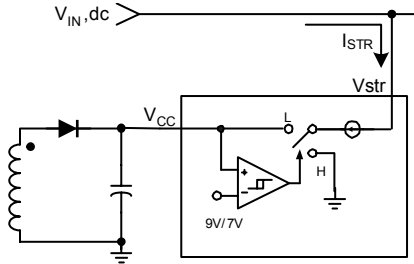

Figure 14. Internal Start-up Circuit
1. Start-up: At start-up, the internal high-voltage current source supplies the internal bias and charges the external V_{CC} capacitor, as shown in Figure 14. When V_{CC} reaches 9V, the device starts switching and the internal high-voltage current source stops charging the capacitor. The device is in normal operation provided V_{CC} does not drop below 7V. After start-up, the bias is supplied from the auxiliary transformer winding.